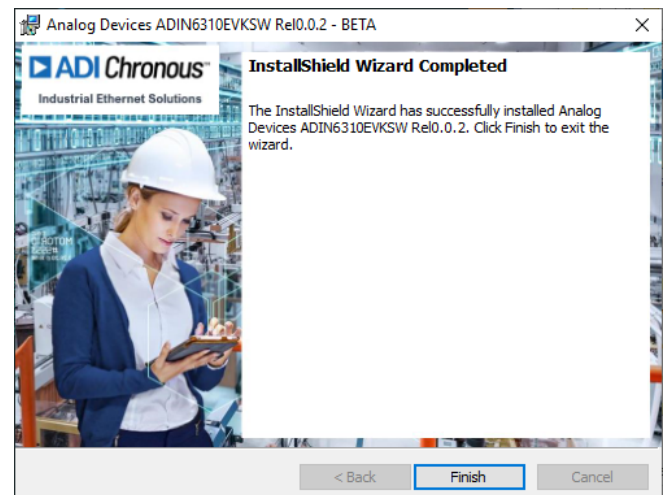

Figure 7. Installation Completes
- A window appears, which shows the progress of the installation. When installation is complete, click **Finish**. (see Figure 7).